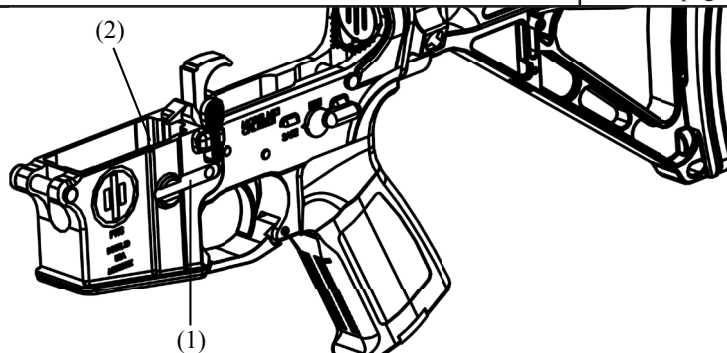

Figure 2.7
2. Magazine catch (Fig. 2.7, 1) defective	Replace magazine catch